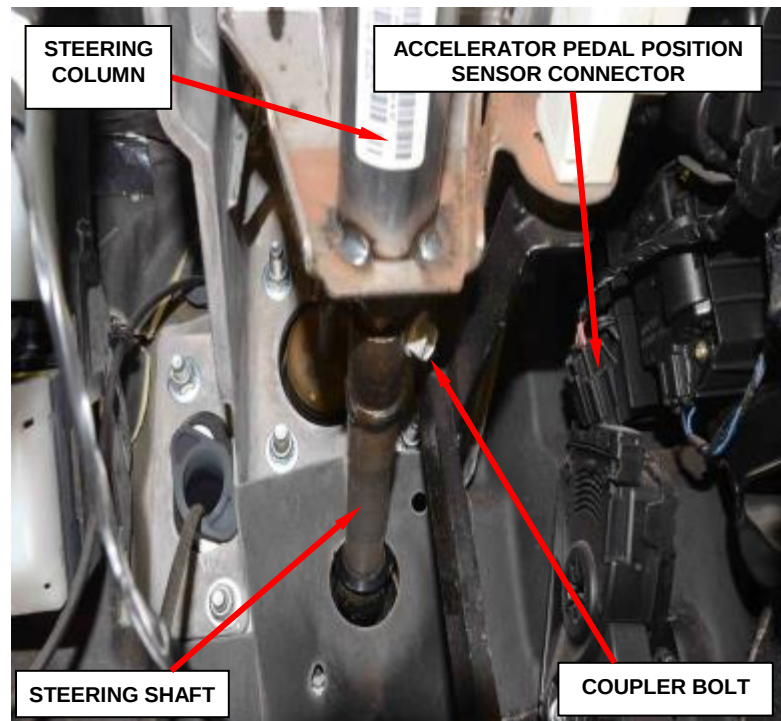

Figure 131 – Steering Shaft Coupler
5. Remove the steering column opening cover and disconnect the parking brake linkage (Figure 131).
6. Remove the steering column reinforcement plate (Figure 131).
7. Remove the two hood release handle screws and position the handle to the side (Figure 131).